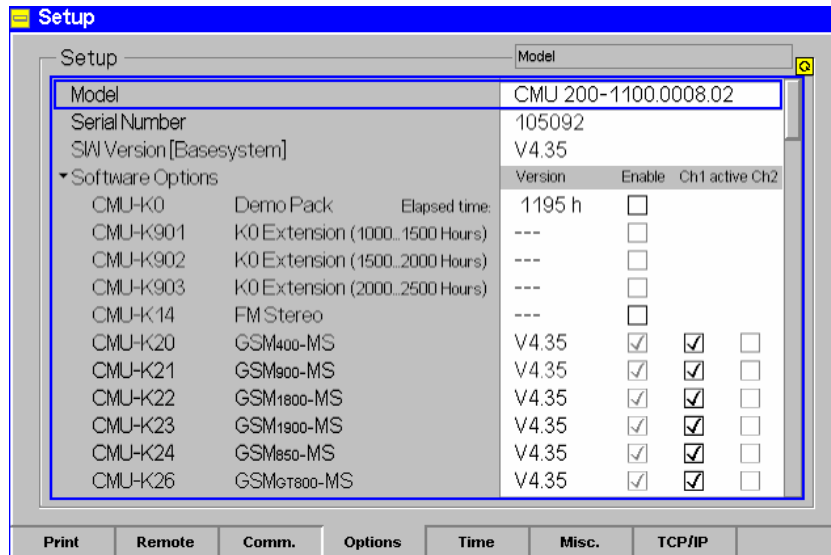

Fig. 4-9 Options menu
- Select the respective line in the list of software options (in the example of Fig. 4-9 the line *CMU-K20 GSM400-MS*).
Each of the options R&S CMU-K901, R&S CMU-K902, R&S CMU-K903 extends the period of time where the R&S CMU operates as a demo unit by another 500 hours. The options must be enabled in ascending order. In the example of Fig. 4-9 above, the *Elapsed Time* is 1195 hours. After enabling option R&S CMU-K0 and then R&S CMU-K901, the instrument will operate as a demo unit for another 1500 h – 1195 h 305 h.